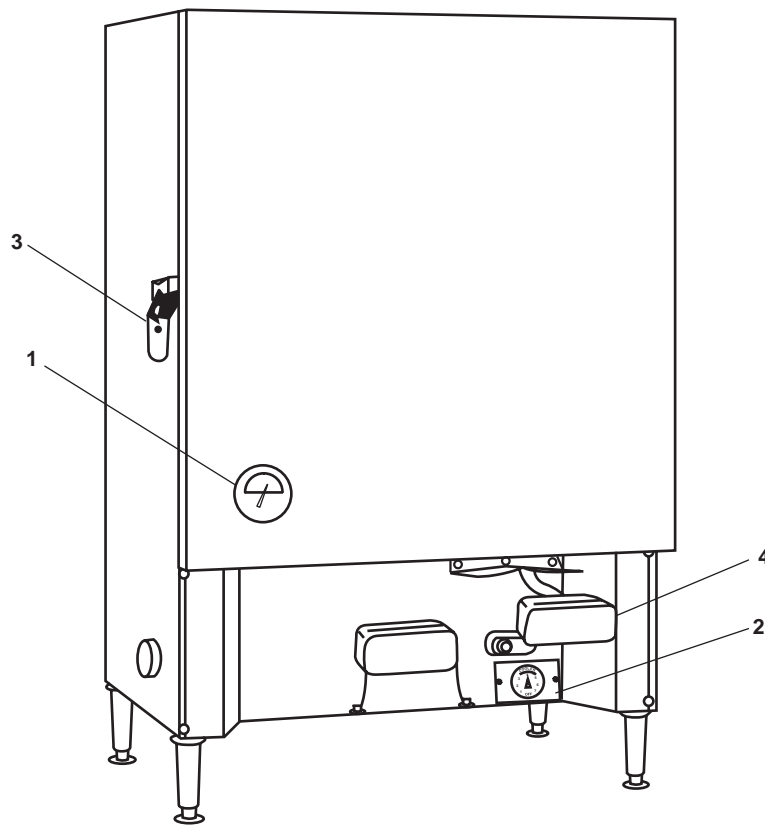

Figure 21. Milk Dispenser
- b. Ensure that the unit is at operating temperature by observing the thermometer (figure 21, item 1) reading; it should be in the GREEN (safe) zone.
- c. Set the temperature control switch (figure 21, item 2) to maintain the temperature in the GREEN (safe) zone.
- d. Open the door by disengaging the latch (figure 21, item 3) and pulling on the door edge.
- e. Place the milk container over the dispensing valve (figure 21, item 4).
- f. Lift the dispensing valve (figure 21, item 4) and feed tube from the milk container through the tube passage in the dispensing valve (figure 21, item 4).
- h. Lower the dispensing valve (figure 21, item 4).
- j. Close the door and secure the latch (figure 21, item 3).
- a. Hold the container under the feed tube of the selected dispensing valve (figure 21, item 4).
- b. Raise the dispensing valve (figure 21, item 4) so that milk will flow into the container.
- c. When the container is filled to the desired level, lower the dispensing valve (figure 21, item 4).